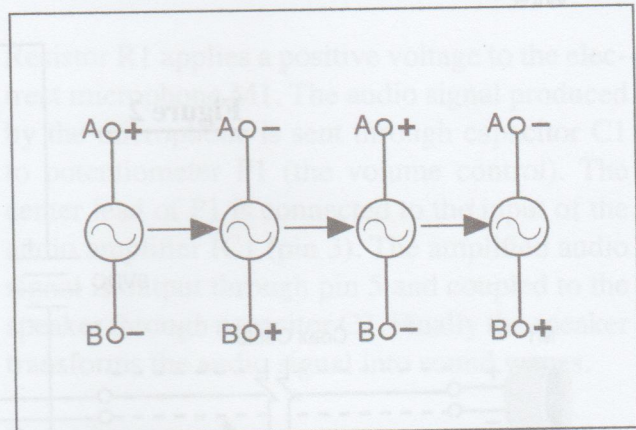

Figure 2 - AC Generator
In contrast to DC current, alternating current (AC) travels in a circuit in both directions. The polarity of the terminals of an AC generator is constantly changing, as shown in figure 2. Notice that terminal A is first positive, then negative, then positive again, and so on: A similar change occurs in the polarity of terminal B.